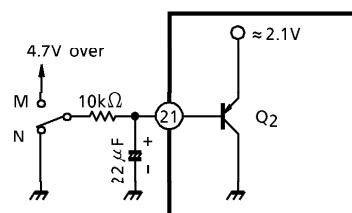

Fig.3
Pin⑪ is coupled to the base of Q₂ (PNP-Tr) as shown in Fig.3.